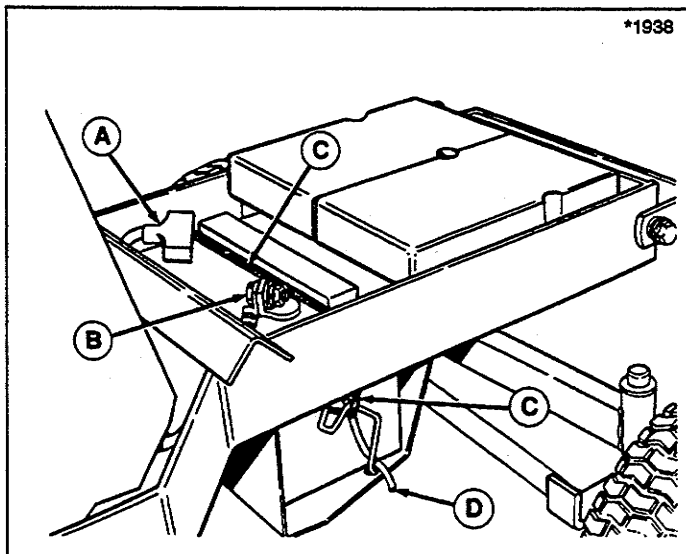

Figure 25. Battery
1. Disconnect the cables from the battery, negative cable first (B, figure 25).